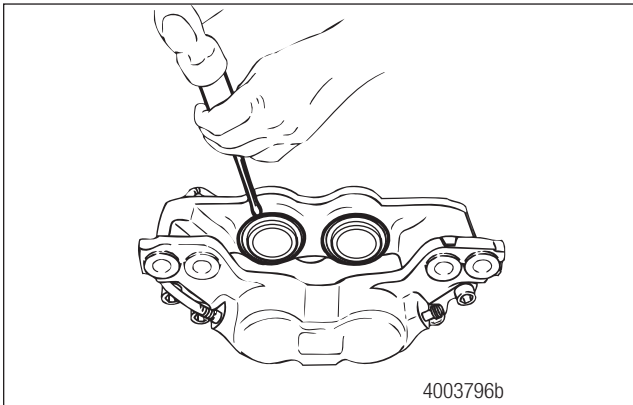

Figure 4.9
- Remove the piston boots by prying the metal ring portion of the boot out of the bore with a screwdriver. Use care to avoid damage to the piston or bore. Discard the boots. Figure 4.9.